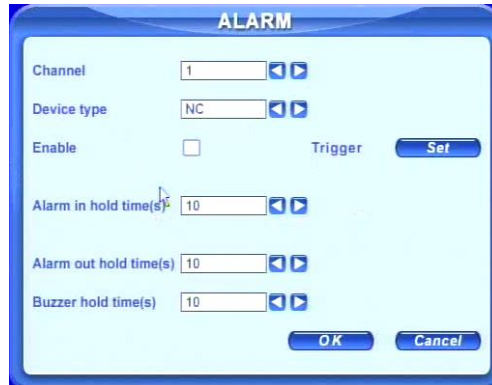

Fig 3.12 Sensor Alarm Setup
STEP1 Enter ALARM configuration, see Fig 3.12 Sensor Alarm Setup. Select cameras